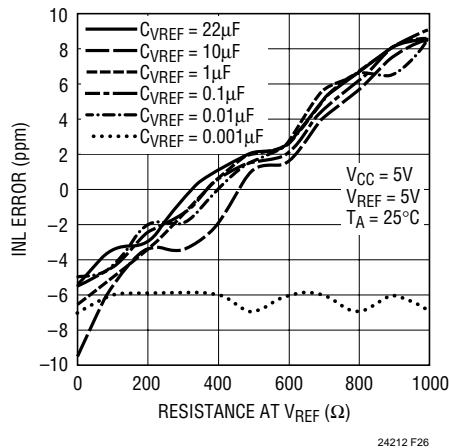

Figure 26. INL Error vs  $R_{VREF}$  (Large C)
0.015ppm/ $\Omega$  independent of capacitance at  $V_{REF}$ , see Figure 26.